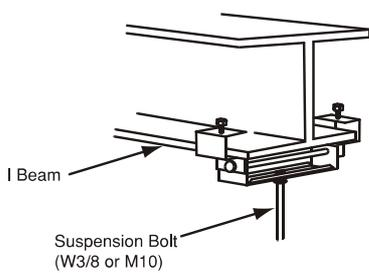

Fig. 4.4 Mounting the Suspension Bolts
- (3) Check to ensure that the ceiling is horizontally level, otherwise drainage can not flow.
- (4) Strengthen the opening parts of the false ceiling.
- (5) Mount suspension bolts, as shown in Fig. 4.4.